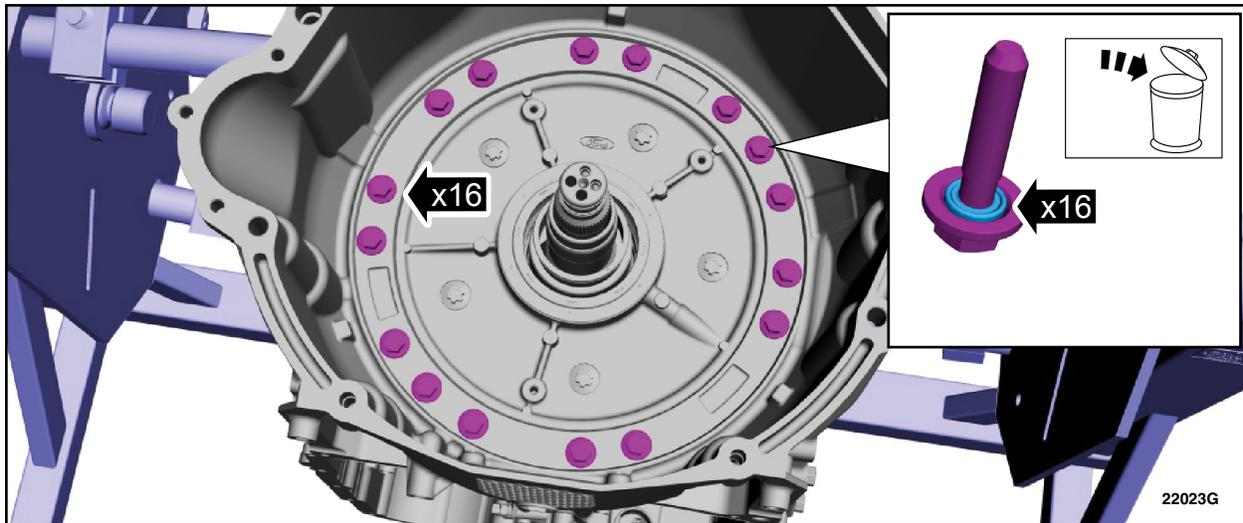

FIGURE 16
19. Remove the front support assembly bolts and discard the front support assembly bolt washers. See Figure 16.